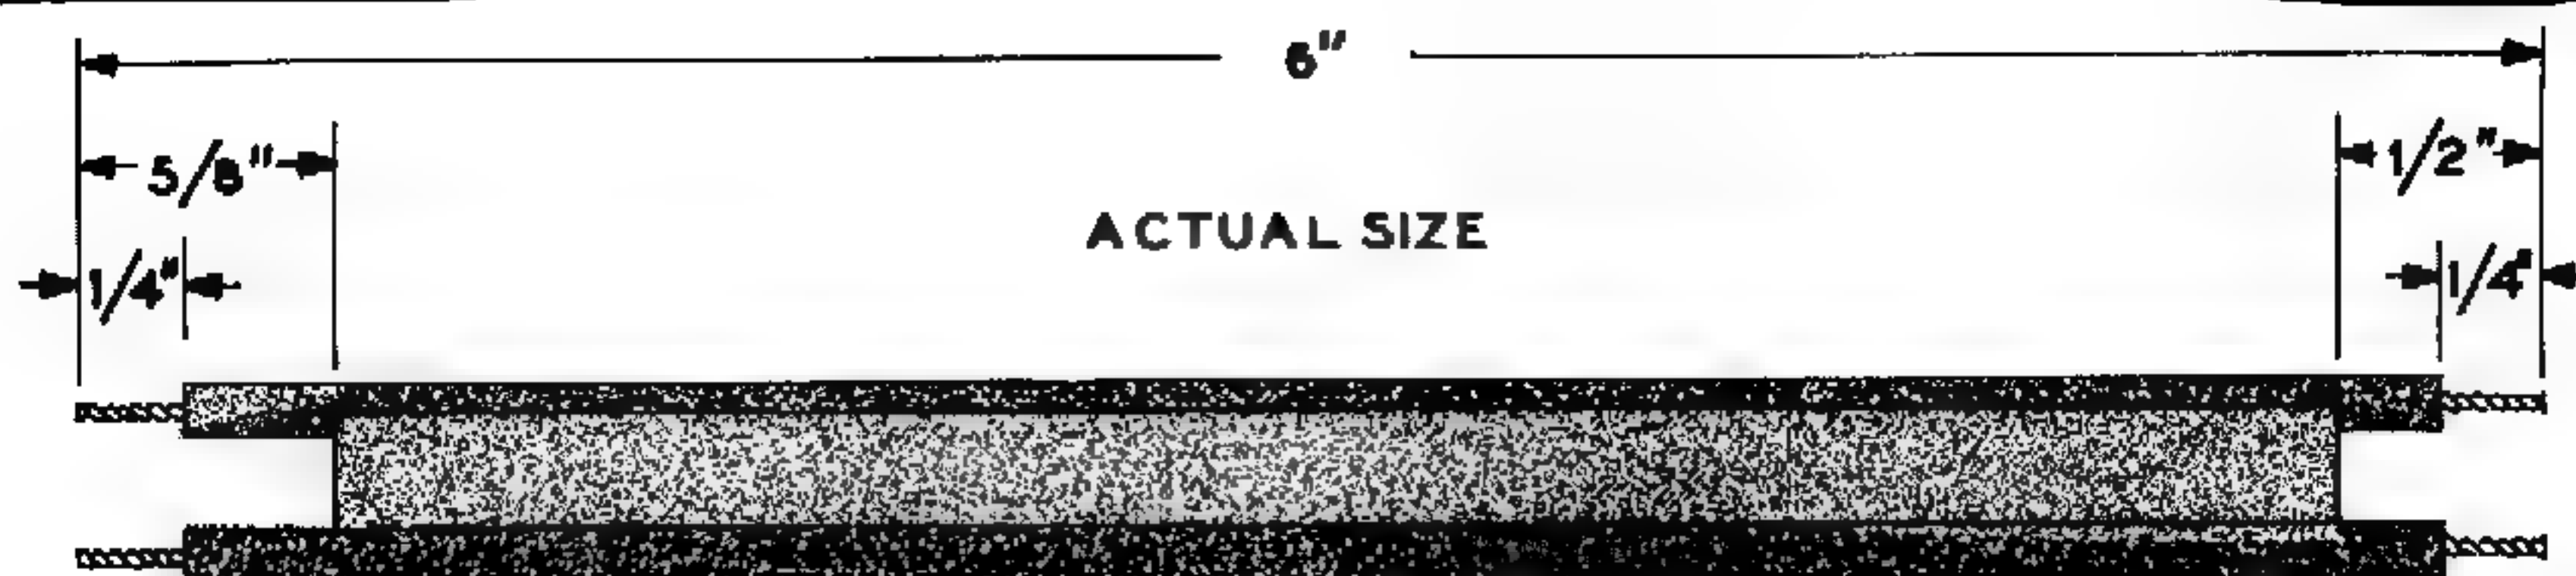

Figure 16
- (✓) Locate the length of 300  $\Omega$  twin lead and prepare it as shown in Figure 16.